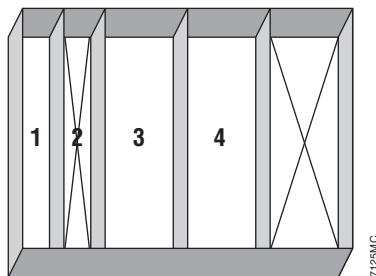

Figure 4. Configuration of troughs at position P3. Trough 1 uses a Quarter Reservoir, Divided by Length. Troughs 3 and 4 each use Quarter Reservoirs.
- Position B3 Gray labware holder, frame for reservoir, reservoir with reagents (see Figure 4 for configuration)